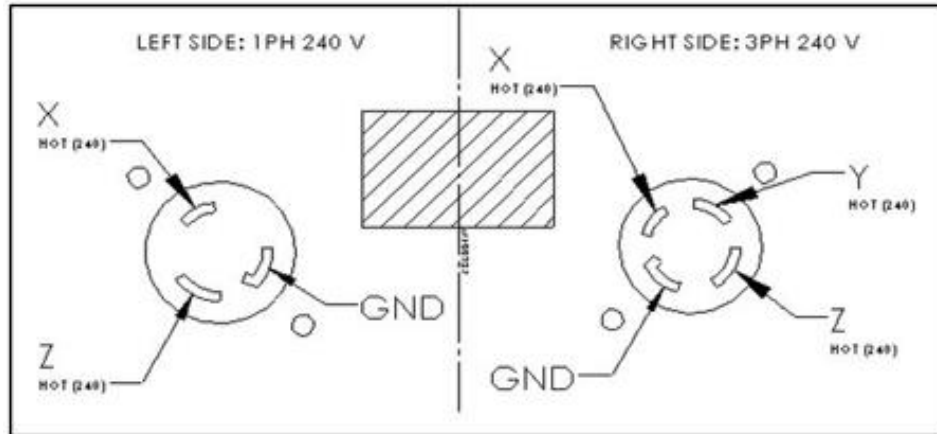

Figure 1
3. Using a multimeter set to the AC voltage scale, measure the voltage at the 240V AC receptacles (Figure 1). Record the results in Table 1 below and compare to the specifications.